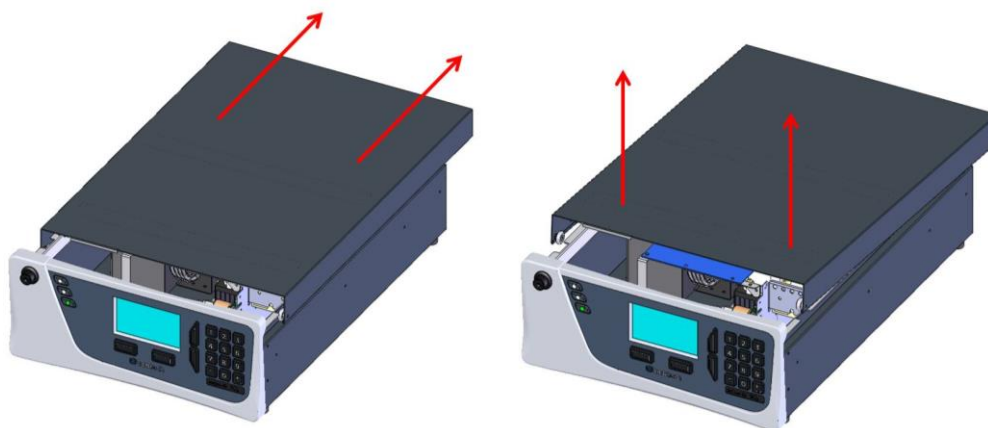

Figure 4 - Opening the instrument
3. To completely remove; slide the lid backwards until the rollers line up with the gaps in the track and pull the lid upwards to remove from the instrument (refer to Figure 4).